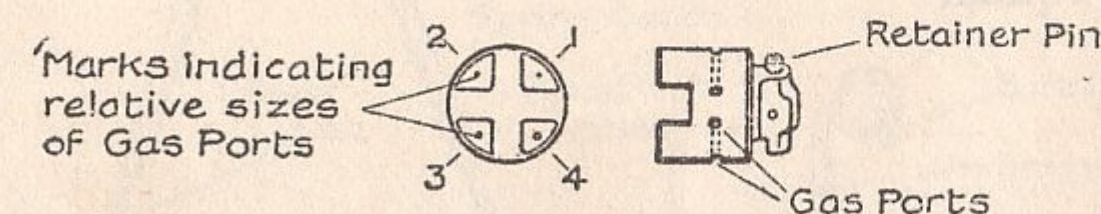

FIG. 7.—Barrel Group.
1. Barrel group (see Fig. 7).—